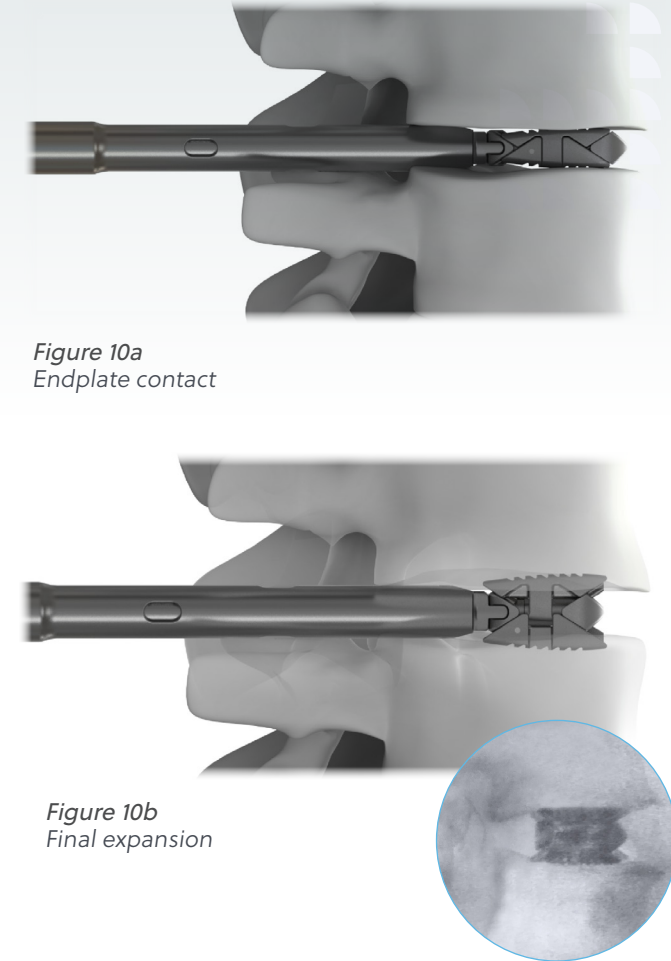

Figure 10a
- Confirm implant position and endplate contact via lateral fluoroscopy (Figure 10a, 10b).